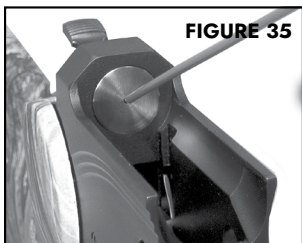

FIGURE 35
- Use a pressurized moisture displacing oil to clean and lubricate the firing pin within the frame (from both the front and back - as shown in FIGURES 35 and 36).